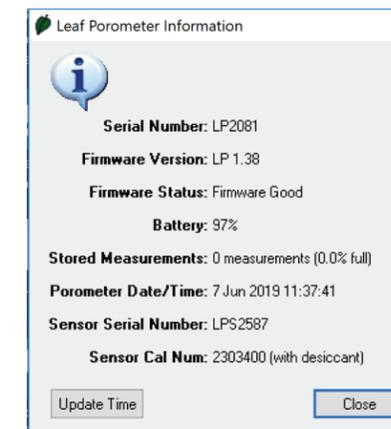

Figure 39 Leaf Porometer Information screen
- **View Porometer Information**: Shows the serial number, firmware version, number of stored readings in the SC-1, firmware status, battery status, current date and time, and sensor calibration number (Figure 39).